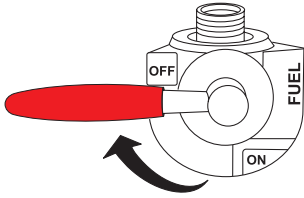

**Figure 33. Oil Filter**
1. Replace the engine oil filter (Figure 33) every 200 hours.